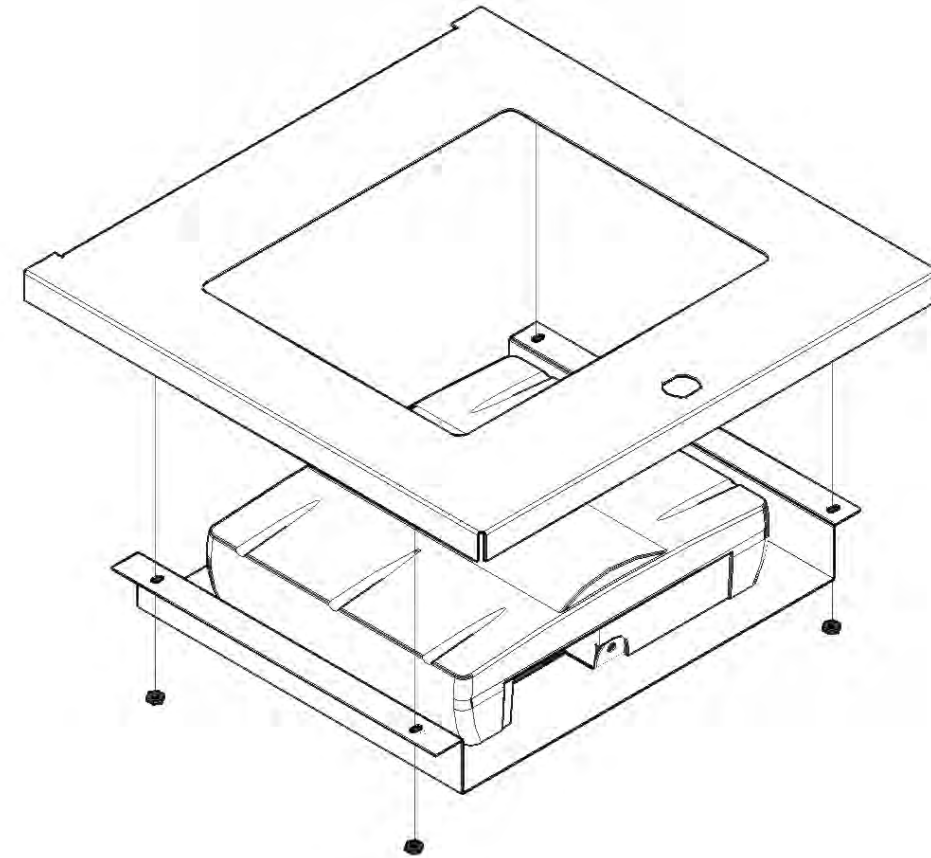

Figure 3
Step 3 – The door assembly is completed by attaching the previously assembled mounting plate/access point assembly to the enclosure door by securing it in place with four (4) #8-32 hex nuts. Place the slotted holes in the mounting plate/access point assembly over the studs located on the bottom side of the door (NOTE: the mounting plate can only be attached to the door in one direction. If the slotted holes don't match up with the studs in the door, rotate the mounting plate 180°). Once the mounting plate is positioned, secure it in place by installing four (4) #8-32 hex nuts. (Ref. Figure 3).
Step 4 – Install the completed door assembly in the enclosure by removing the current door (if not previously done) and replacing it with the door assembly. To remove the old door, open the enclosure and remove the three (3) hex nuts holding the door in place. Install the door assembly by placing the three (3) mounting holes in the door over the studs on the hinge and then replace the nuts.